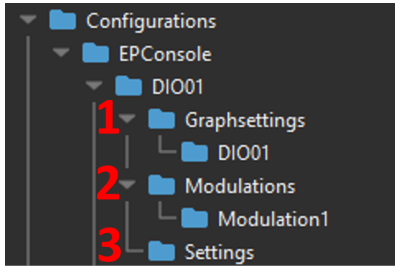
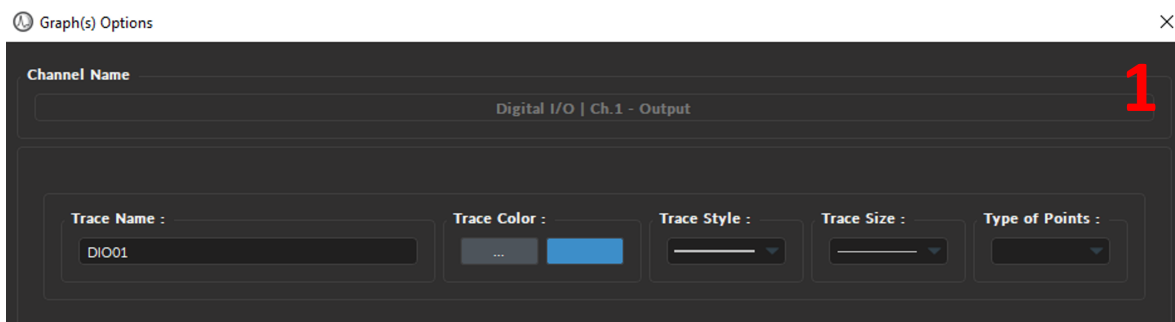

Figure 13.29: Channel-specific Structure
Figure 13.30: Acquisition Console, Graph Option(s) window
Each **Channel / Sensor Type** has different configuration attributes, however, they mostly can all be split into 2-3 sub-folders (Fig. 13.29):
1. The **Graphsettings** folder (Fig. 13.29, 1 & 13.31) contains the attributes concerning how the signals are displayed within the **Acquisition View** of the **Acquisition Console** module. Users can specify the trace name, color, style, size, and type of points within the **Graph(s) Options** window (Fig 13.30).
2. The **Modulations** folder (Fig. 13.29, 2 & 13.33a) is only included for output-type channels (Digital or Analog). This type of folder contains the user-specified attributes in the **Sequence Option(s)** of the **Channel(s) Configuration** window (Fig. 13.32, 2) (e.g. *Starting Delay, Frequency, Time ON, Pulse(s) Sequence*, etc.). Note that depending on the Channel type (Digital vs Analog) and Channel Mode (CW, *Square, Stairs*, etc.) the parameters of the **Sequence Option(s)** will change. However, all possible attributes, regardless of Channel Type and Mode, are included in the **Attribute** tab of the **GraphSettings** folder. If the attribute is unused, the value will be 0.
3. The **Settings** folder (Fig. 13.29, 3 & 13.33b) contains the attributes from the **Channel Options** box in the **Channel(s) Configuration** window (Fig. 13.32, 3).